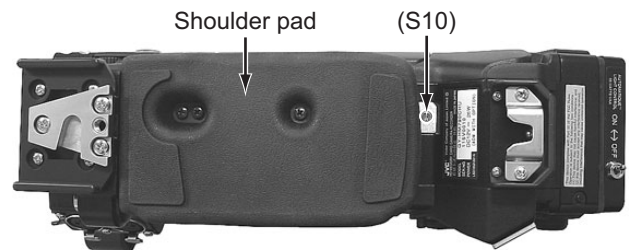
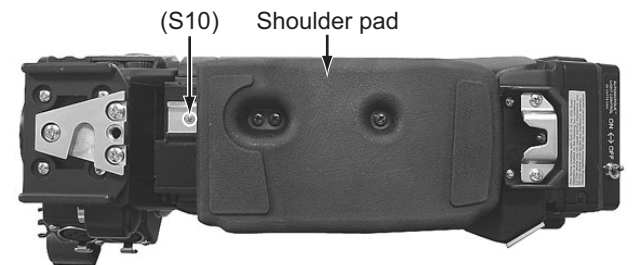
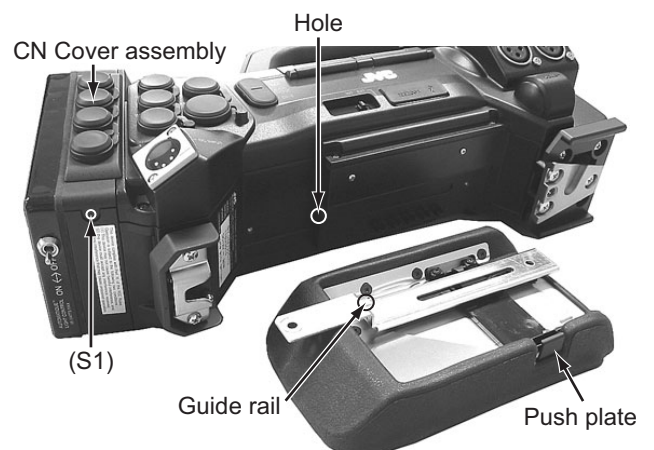
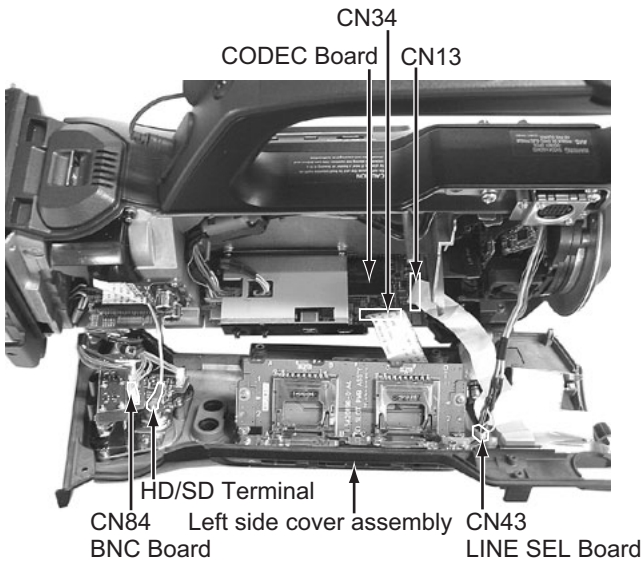

Fig.1
Fig.2
Fig.3
Fig.6
3.2.1 Removing the left side cover assembly (See figure 1, figure 2, figure 3, figure 4, figure 5, figure 6 and figure 7)